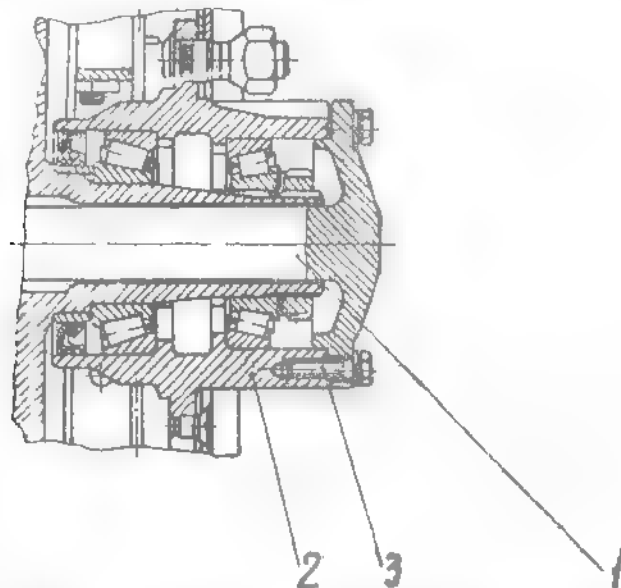

Fig. 2.12. REAR AXLE DRIVE SHAFT FASTENING ON WHEEL HUB
- Unscrew bolts fastening rear axle drive shaft on the wheel hub (see fig.2.12).